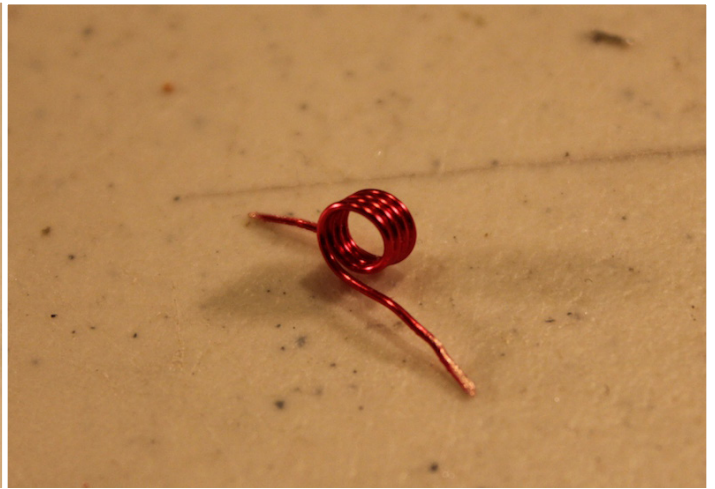

Figure 11
- With the wire still wrapped around the headphone plug, take a small piece of sand paper and rub off the colored insulation of each end until the bare copper is exposed. If the copper is not exposed, you won't be able to make a connection. (See figure 11)